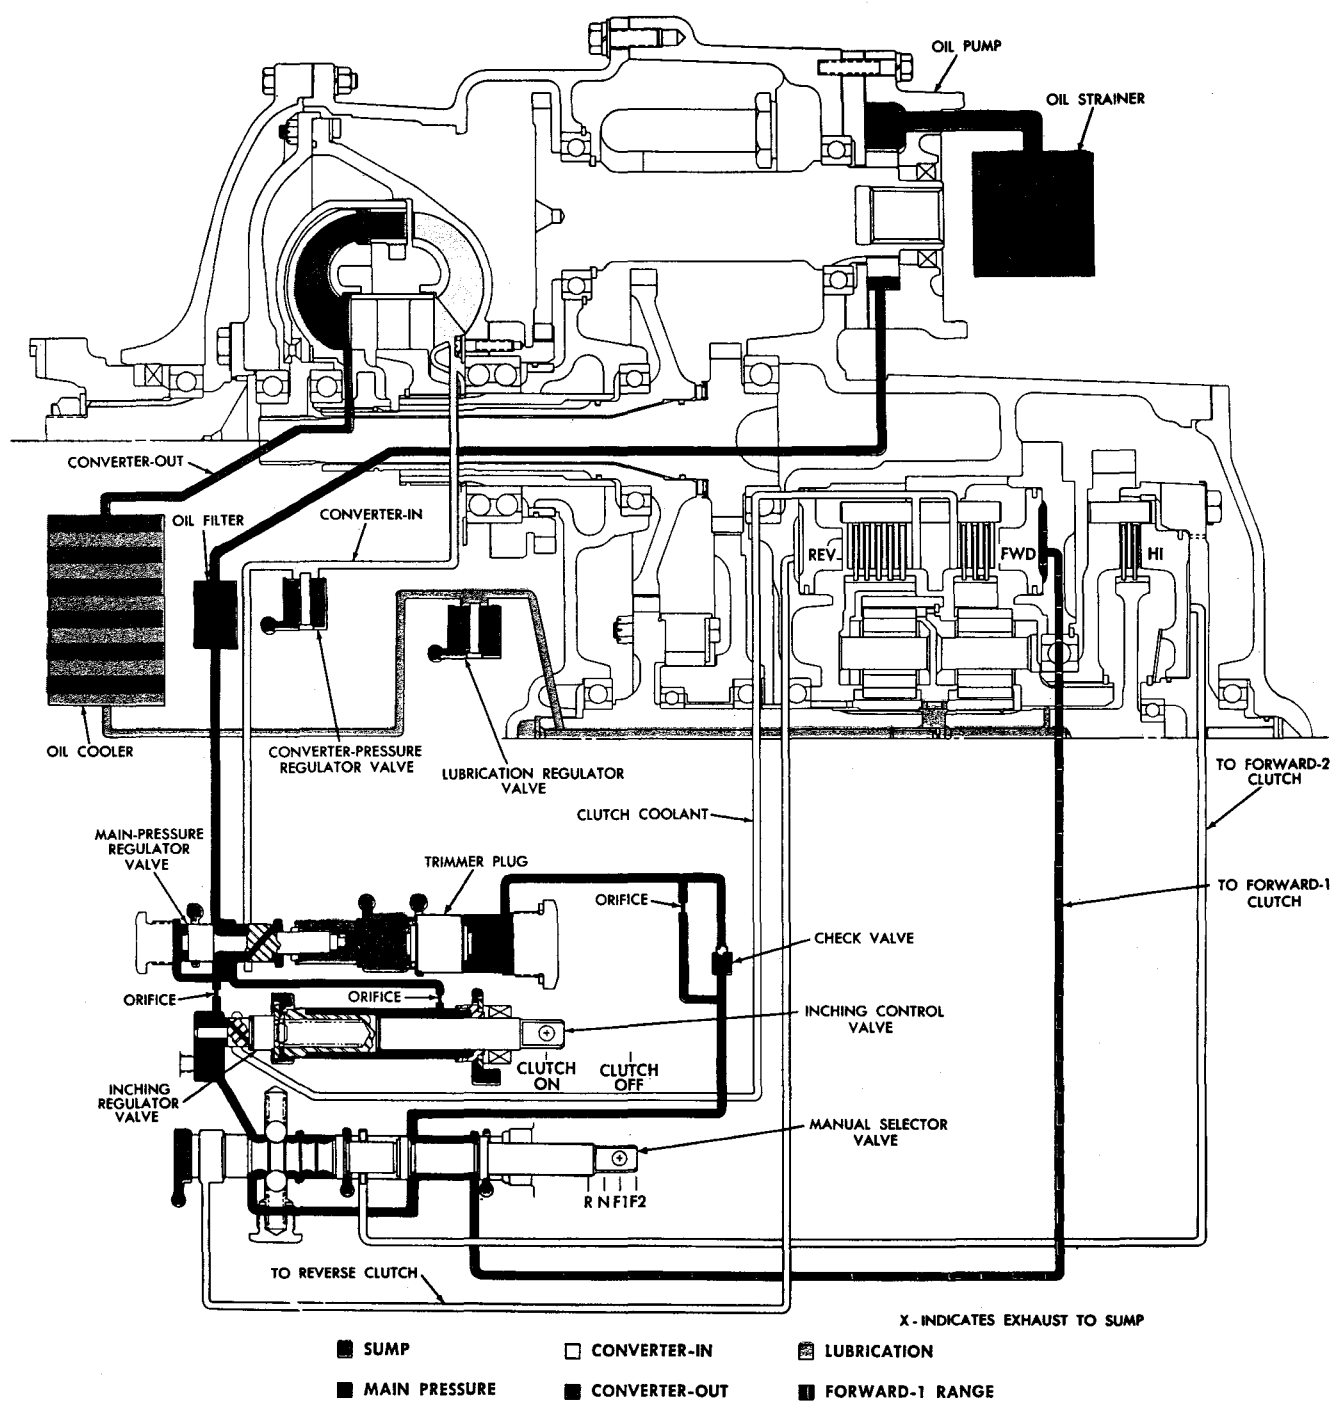
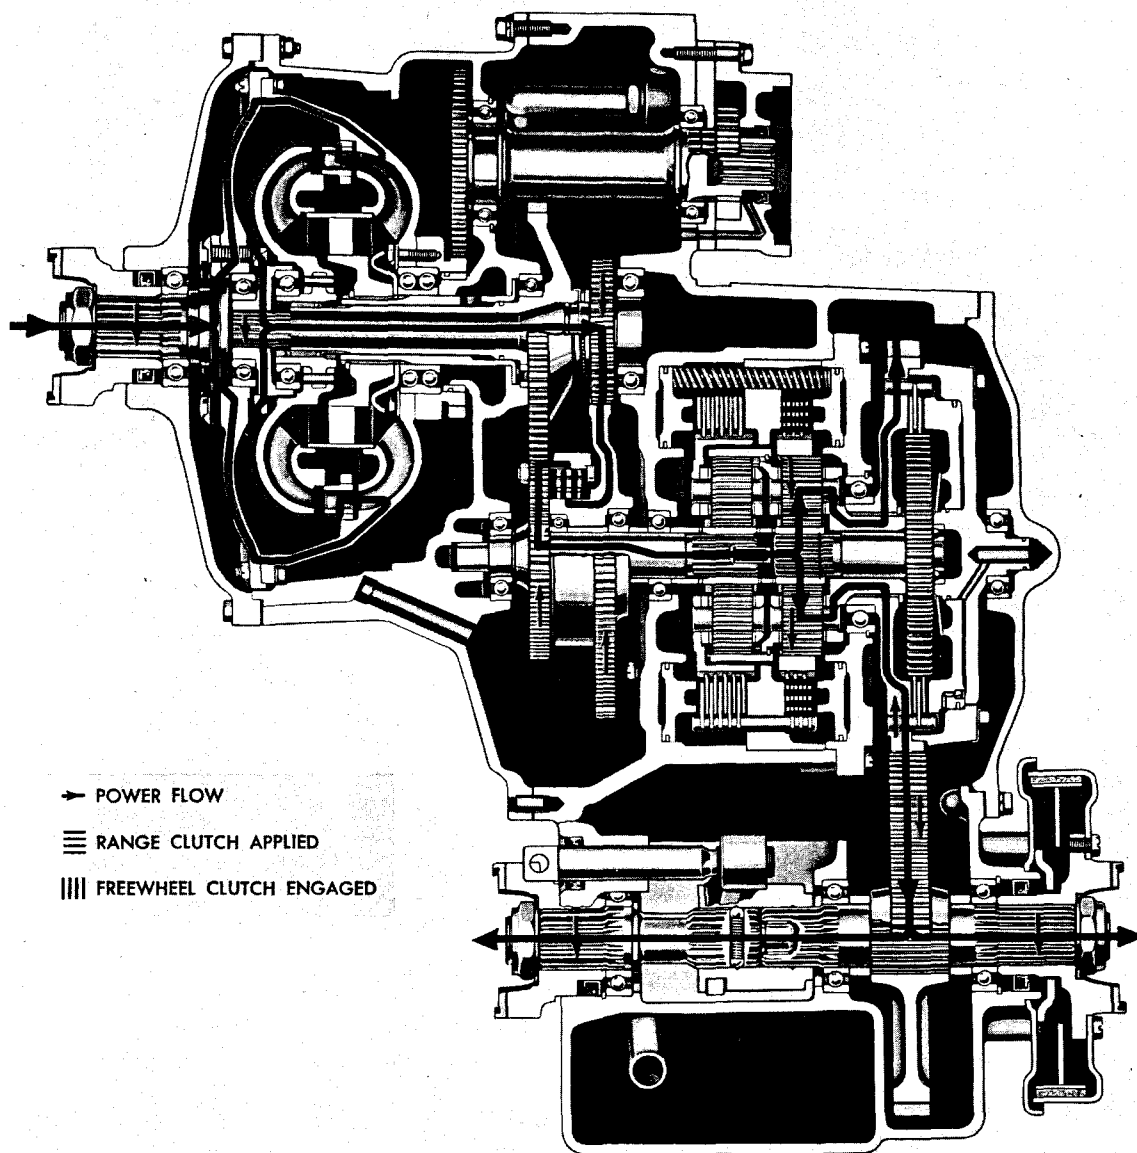

Fig. II-2. Hydraulic action in forward-1 range, inching control valve released—schematic diagram
Fig. II-7. Forward-1, first turbine—torque path
a. Fig. II-2 illustrates the hydraulic system's action when the range selector control is in forward-1 position. Oil flow in the sys-
reverse- and high-range clutches exhaust to the sump. Para 21 and 22, below, and fig. II-7 and II-8 cover the power flows through the transmission which correspond to the hydraulic conditions in this paragraph.
transmission torque flows through the first and second or second only converter turbine. The transition of the torque path from one turbine to the other is automatic and involves only hydraulic action within the torque converter (refer to para 14d, above). Thus, there is no difference in the valve hydraulic action representing first or second turbine conditions for each given range. For example, para 16, above, and fig. II-2, which cover hydraulic action for forward-1 range, apply equally to para 21 and 22, below, and fig. II-7 and II-8.
a. Fig. II-7 illustrates the torque path through the transmission in forward-1 range when load demand is high. Refer also to fold-out 1 for identification of components. Torque is transmitted hydraulically from the converter pump to the first turbine at stall. From the first turbine, torque flows through reduction gears and the engaged freewheel clutch to the second-turbine driven gear. As output speed increases, part of the torque is trans-